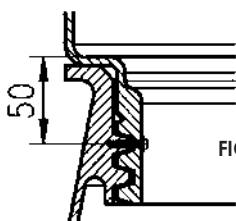

FIG. 14
- After screwing on the extension, you should prevent it from loosening by using the screws provided. To this end, drill a Ø 3mm hole in the lower threading zone of the extension and tank threading, then screw in the screws (See FIG. 14 below).